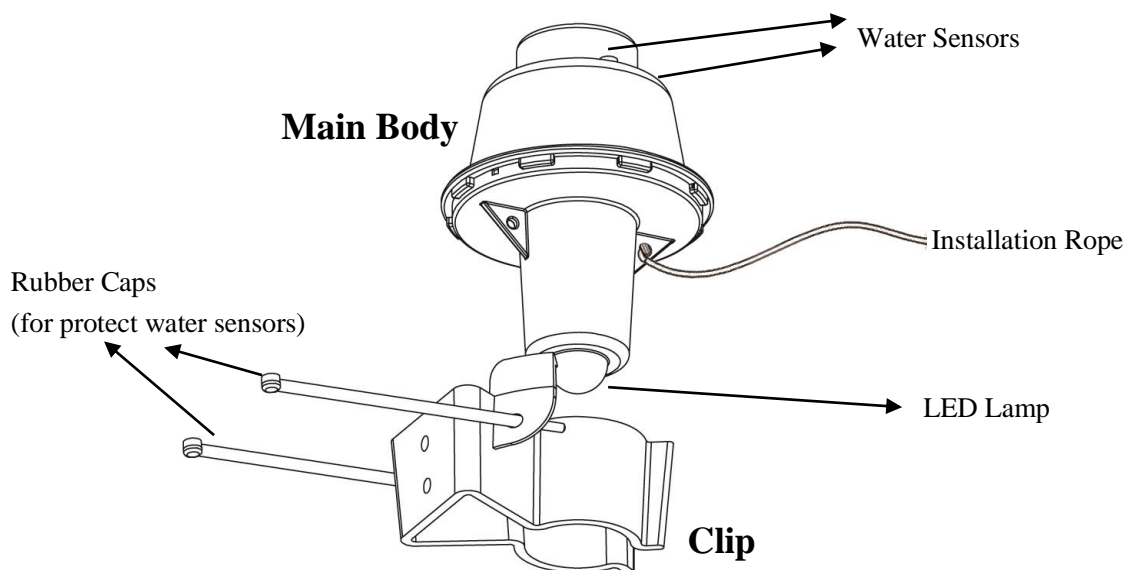

Figure 2-1 Product Structure
2.2.1 LNK-LB-01B lifebuoy light consists of main body with battery, LED lamp, water sensors and clip (with rubber caps) & rope for installation. The structure is shown as below Figure2-1: